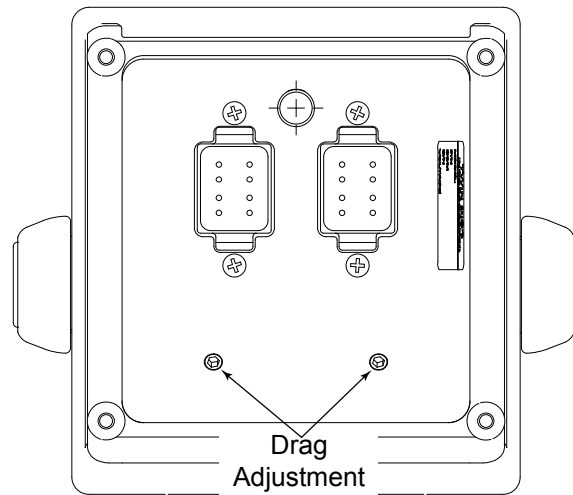

Figure 10. Drag Adjustment Screws
2. Insert an 1/8 in. hex key wrench into the opening for each lever and set drag by accessing the drag adjustment screw as shown in Figure 10.